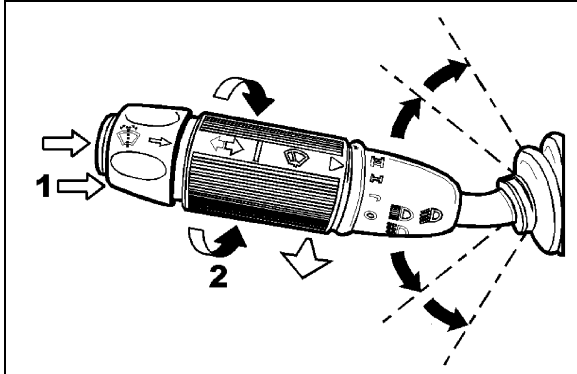

FIGURE 33: MULTIFUNCTION LEVER
Turn the multifunction lever forward to activate windshield wipers (item 2, fig. 33). The first position operates the wipers at low speed and the second position operates the wipers at high speed. Turning the lever backwards will operate the wipers in the intermittent mode.
The windshield washer pumps are electrically operated and are controlled by a washer control ring on the multifunction lever (item 1, fig. 33).